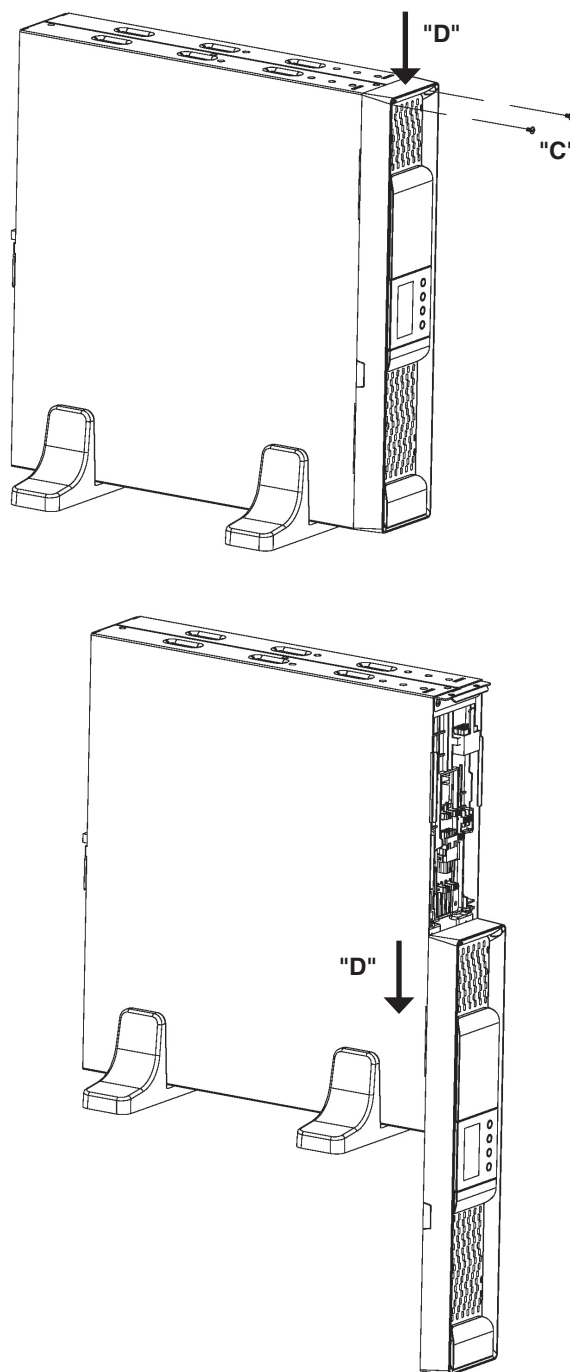

Fig. 4. Taking out the beautiful front cover.
- To take out the beautiful front cover, proceed as follows (see figure 4):